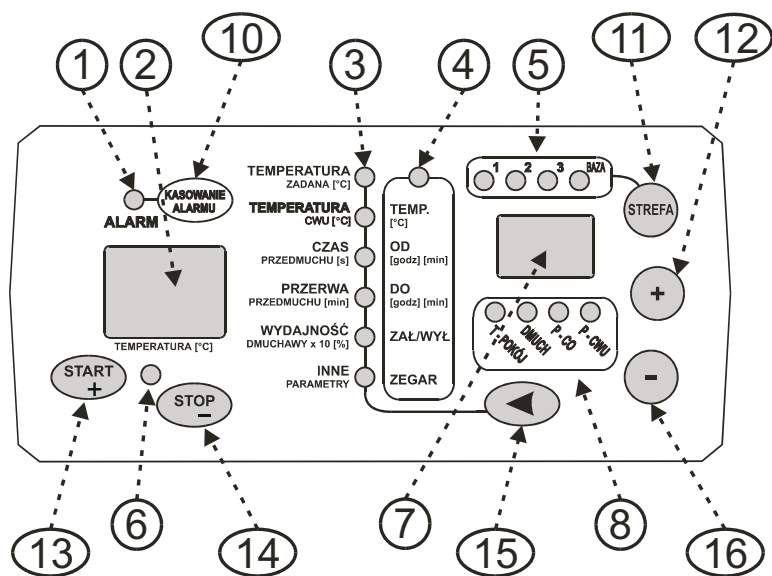
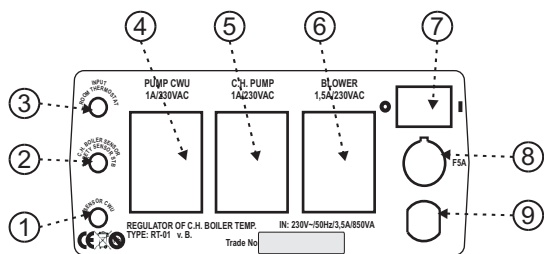

Fig.1 Control panel view
Fig.2 Back wall view
The regulator has an output to connect a room thermostat of any kind, equipped with a no-voltage relay output. The thermostat clamps need to be connected to the regulator. The clamps are short-circuited if room temperature is higher than the given value. As long as room temperature is lower than the set value in the thermostat (relay clamps are open), the regulator works normally. If room temperature exceeds the in thermostat set value (relay clamps are short-circuited), which is signaled by blinking lamp T-ROOM (fig. 1/4), the regulator modifies its functions: preset boiler temperature gets down.
Power switch is located on the back wall (Fig. 2). Turning off the regulator by switch "6" (Fig. 2) disconnects the power supply of a blower and a rotary pump as well. Control Panel (Fig. 1) is designed to put in regulator adjustments. The left display "2" shows boiler temperature. Buttons "13" and "14" serve to initiate **Burn-up** and **Extinguish phase** of a boiler. (**Extinguish** is possible only if temperature is lower than 35°C). Boiler state is indicated by lamp "6". The right display "7" shows the value of a parameter chosen by button "15" signaled by one of lamps "3". The value of the parameter can be changed by buttons "12/16". If the buttons are not used for longer than 10sec and the regulator indicates the given temperature.
The day is divided into 3 zones (1,2,3) and the span in which no zone is active (BAZA). The zone (1,2,3) is characterized by a given temperature (TEMP), start time (OD), end time (DO) and the activation mark of zone (ZAL/WYL), though BAZA is only parameterized by a given temperature (TEMP). On the front panel are 4 small lamps. Each of them is marked by zone symbol (Fig.1/4) meaning which time zone is actually active (If all the zones are inactive, only the lamp BAZA shines).